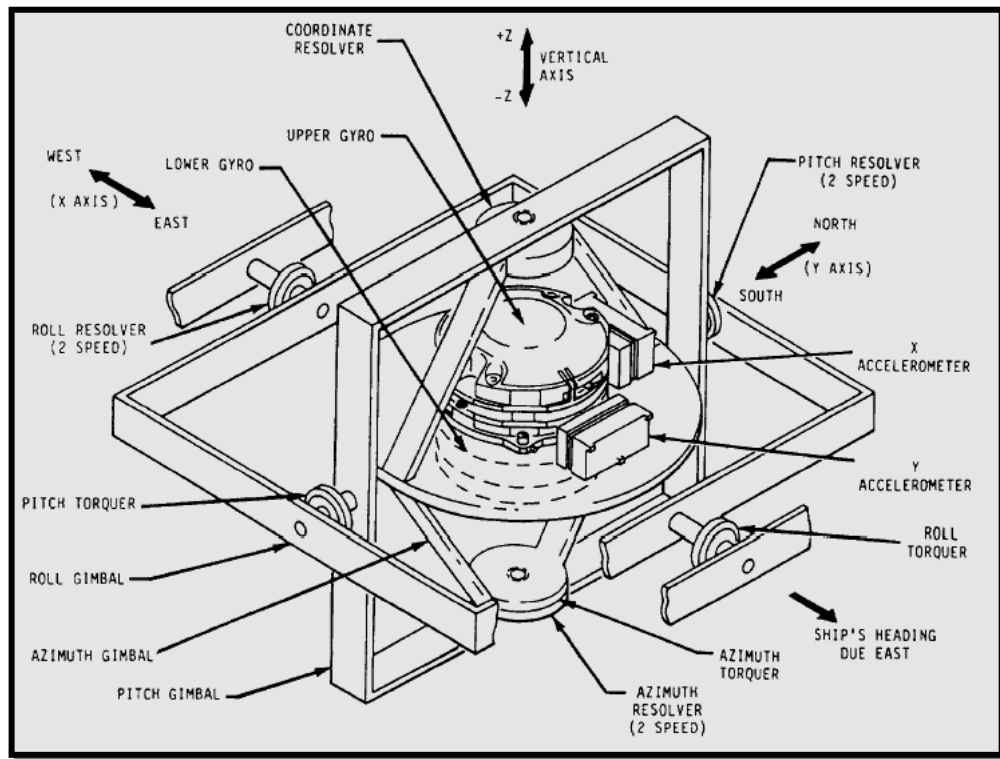

Figure 4-39.—Inertial measuring unit.
**STABLE ELEMENT CAGING.**— Upon energizing and for 10 seconds thereafter, gyro spin power is inhibited by the software program and the stable element is caged. At the end of the delay, the gyros are energized with high spin power. The software program allows 60 seconds for the gyros to gain speed and then perform the gyro synchronization test. If the synchronization test is passed, the program examines the output of the X accelerometer (fig. 4-39) for minimum output, which indicates the platform is level. The software program then checks for proper temperature of the IMU. When the synchronization test, level check and temperature check are successfully completed, the stable element is uncaged and placed under gyro control. Gyro spin power is then set to normal low spin value.